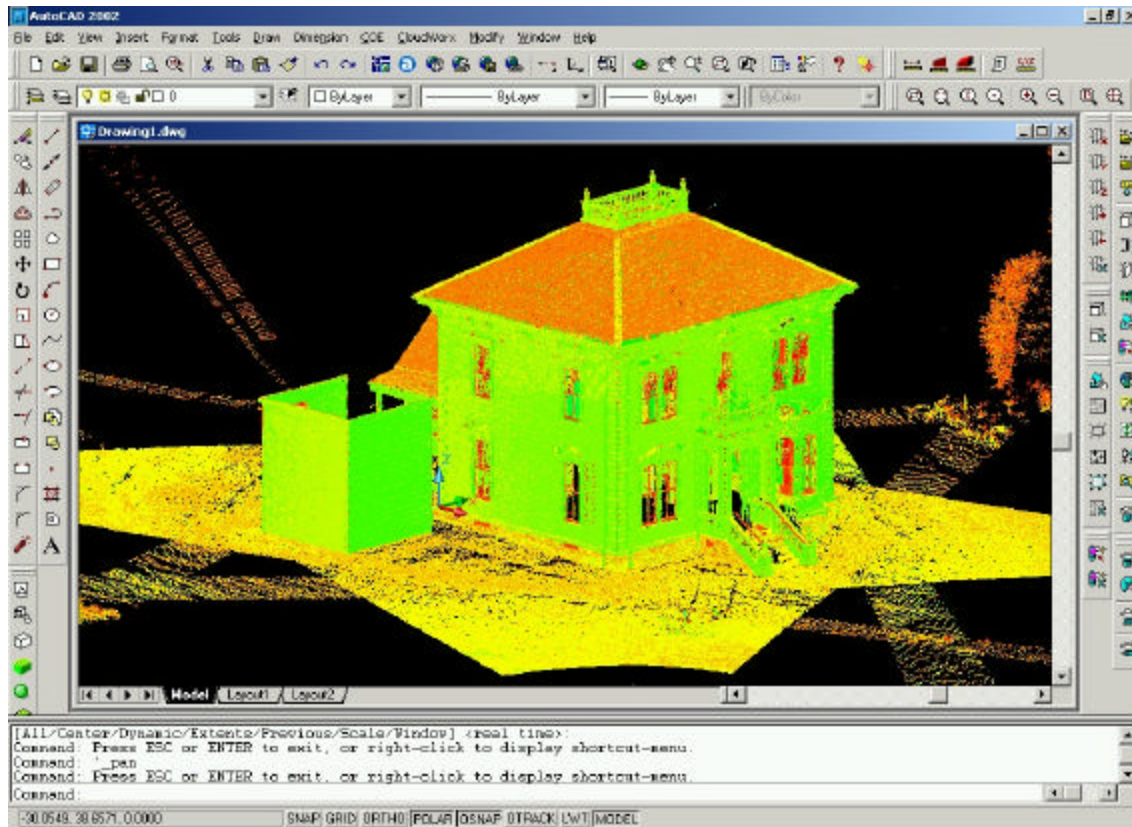

fig 2.3.4
5. Click **OK** in the **Open ModelSpace View** dialog to load the points. The command line will update during this process, displaying the number of points being loaded (Fig 2.3.4).